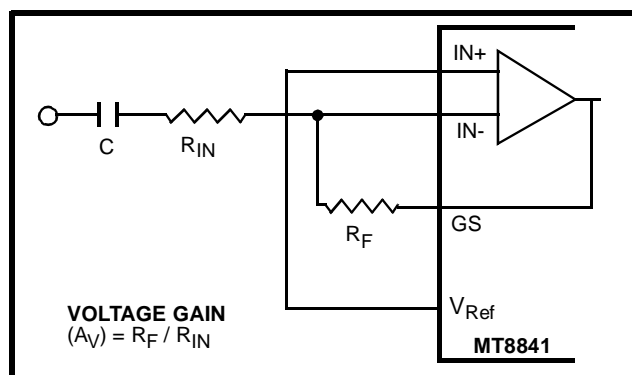

Figure 4 - Single-Ended Input Configuration
The input arrangement of the MT8841 provides an operational amplifier, as well as a bias source ( $V_{Ref}$ ) which is used to bias the inputs at  $V_{DD}/2$ . Provision is made for connection of a feedback resistor to the op-amp output (GS) for adjustment of gain. In a single-ended configuration, the input pins are connected as shown in Figure 4.